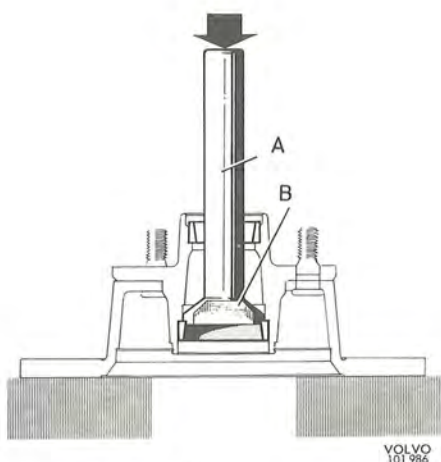
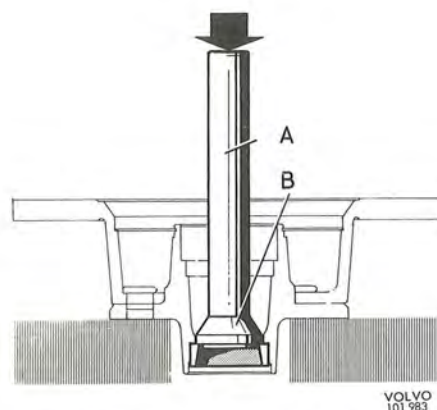

Fig. 7-22. Removing the inner bearing ring
Fig. 7-23. Removing the outer bearing ring
5. Remove the bearing rings. Use drift SVO 2724 (Fig. 7-22) for the inner bearing ring and drift SVO 2725 (Fig. 7-23) for the outer bearing ring together with standard handle SVO 1801.